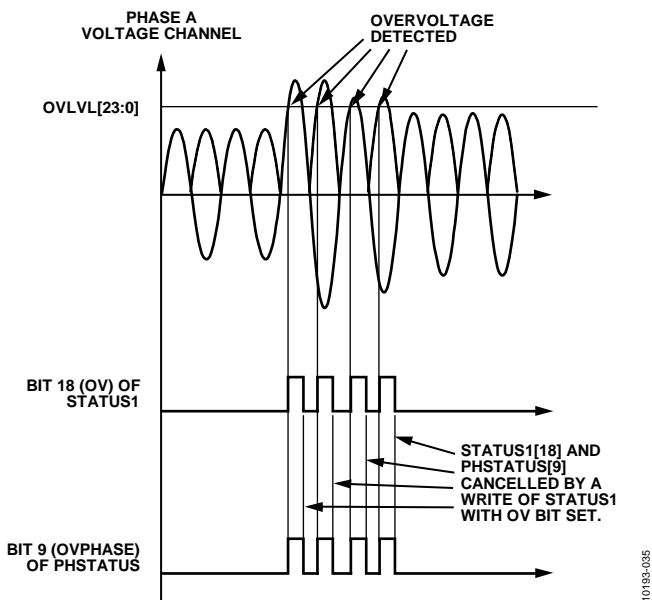

Figure 62. Overvoltage Detection
The ADE7880 detects when the instantaneous absolute value measured on the voltage and current channels becomes greater than the thresholds set in the OVLVL and OILVL 24-bit unsigned registers. If Bit 18 (OV) in the MASK1 register is set, the IRQ1 interrupt pin is driven low in case of an overvoltage event. There are two status flags set when the IRQ1 interrupt pin is driven low: Bit 18 (OV) in the STATUS1 register and one of Bits[11:9] (OVPHASE[2:0]) in the PHSTATUS register to identify the phase that generated the overvoltage. The Status Bit 18 (OV) in the STATUS1 register and all Bits[11:9] (OVPHASE[2:0]) in the PHSTATUS register are cleared, and the IRQ1 pin is set to high by writing to the STATUS1 register with the status bit set to 1. Figure 62 presents overvoltage detection in the Phase A voltage.